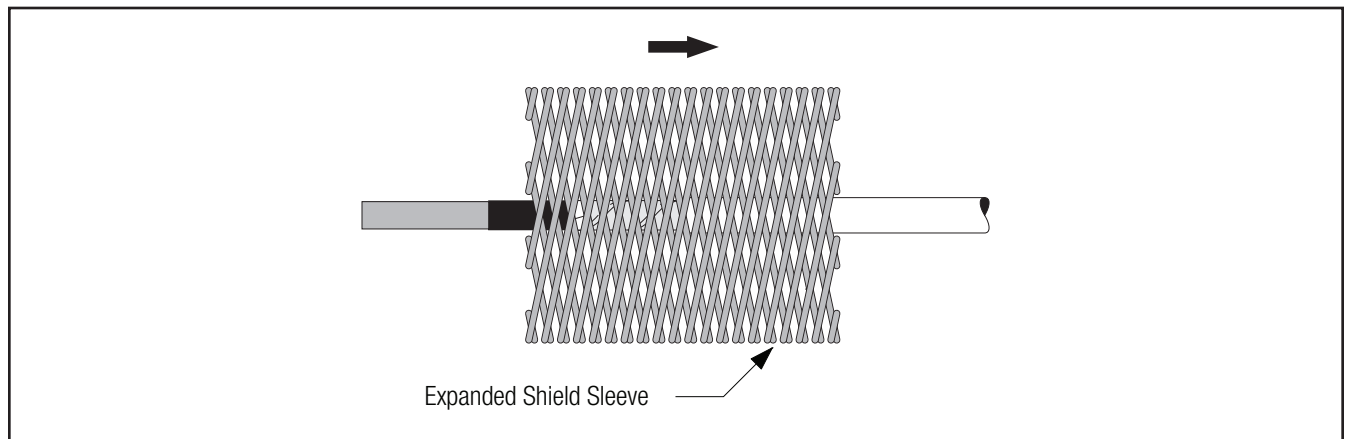

Figure 11
- 3.2 Position the expanded shield sleeve onto one cable. The shield sleeve is designed to carry up to 1/3 neutral current (Figure 11).